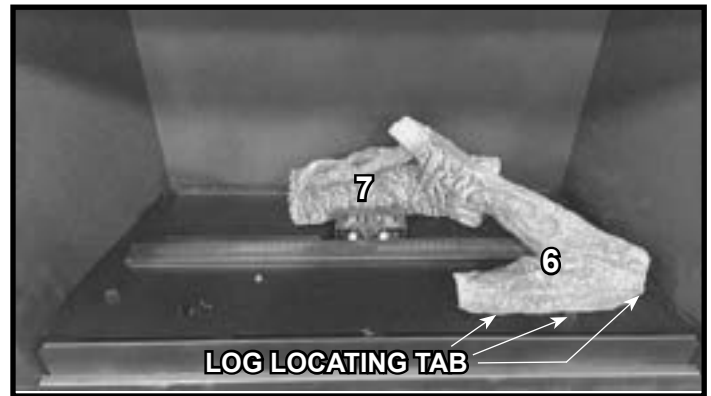

Figure 28. Place Log #6
9. Install Log #6 by locating the placement tabs in front of the burner near the front right corner of the base pan. Set Log #6 on the base pan and bring it forward so that it contacts the front two placement tabs. Slide Log #6 to the right until it contacts log placement tab on right side of basepan. Log #6 should lean back and rest on Log #7. See Figure 28.